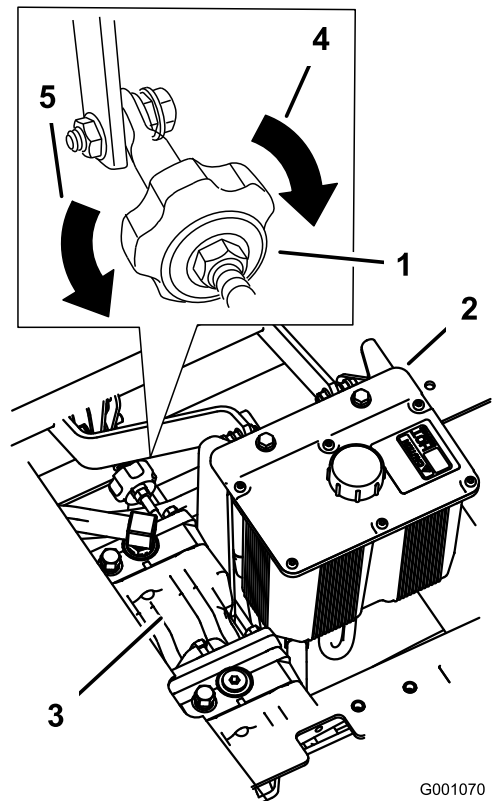

Figure 77
2. Adjust the pump rod length by rotating the knob, in the appropriate direction, until the wheel is still or slightly creeping in reverse (Figure 77).